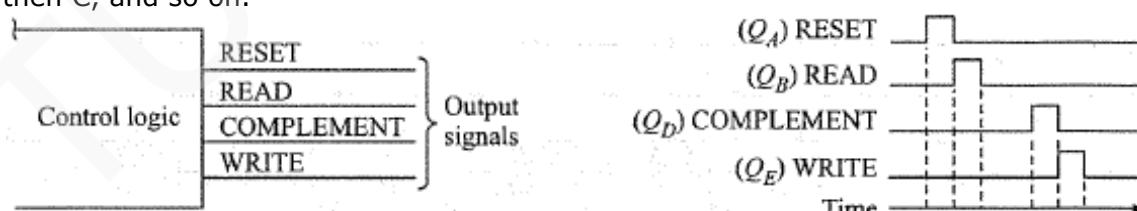

Figure 9.21: control section of a digital system
- As shown in Figure 9.21, RESET, READ, COMPLEMENT, and WRITE control signals can be generated as a set of control pulses that occur one after the other sequentially.